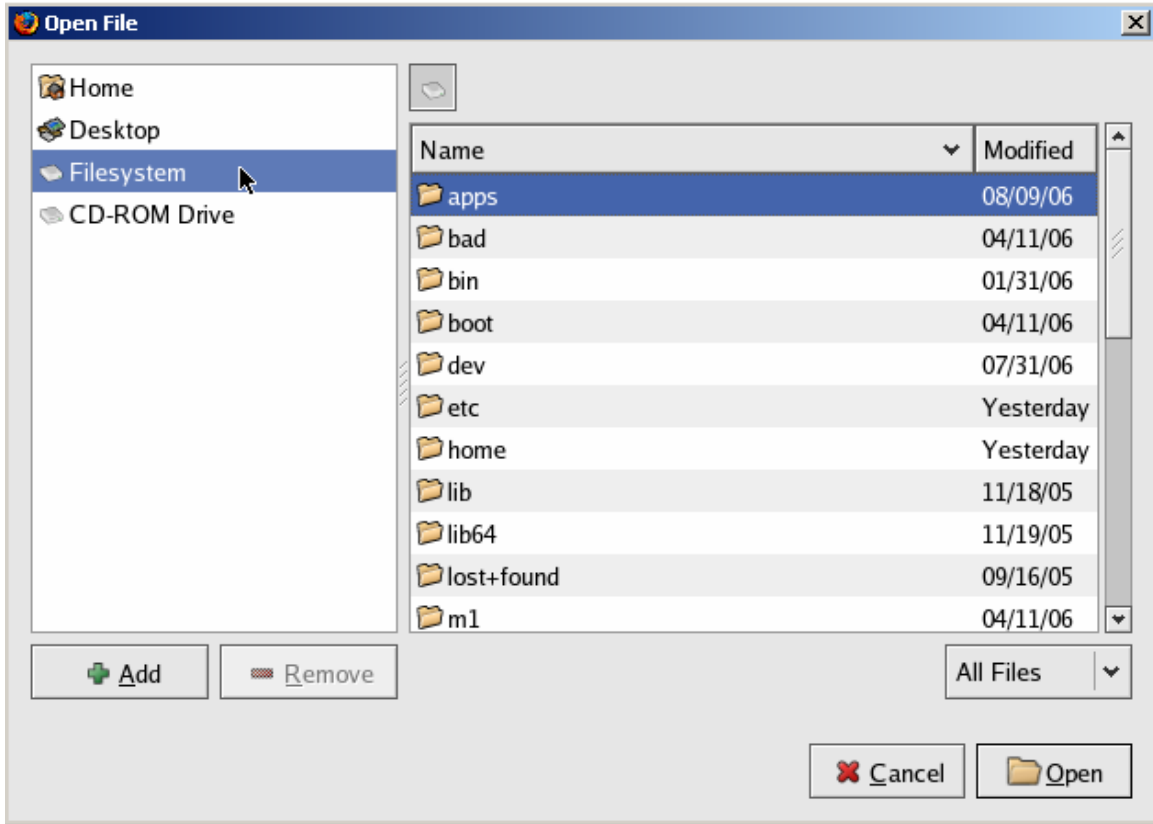

Figure 3: Open a file (Filesystem).
4. Click on Filesystem in the left control area of Figure 3.
5. Click on apps in the right control area of Figure 3.